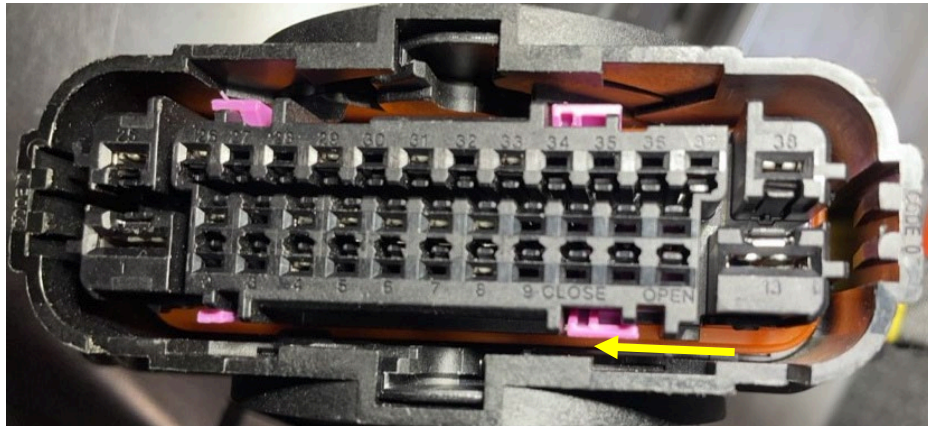

Figure 30
25. Use a pick to slide the large locking tab of connector X151 from “OPEN” to “CLOSE” (Figure 30).